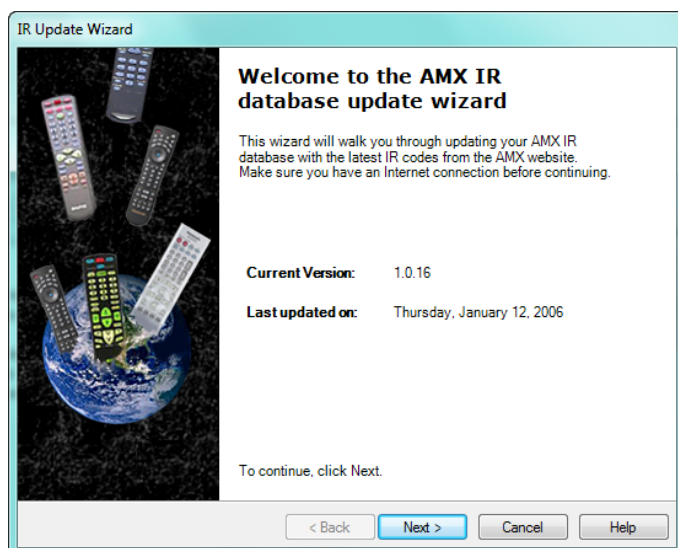

FIG. 37 IR Update Wizard - Welcome dialog
1. Select **Help > AMX IR Update** to open the *IR Update Wizard* (FIG. 37):